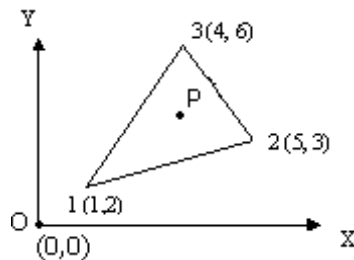

Figure 4b
- (b) The nodal coordinates of the triangular element are shown in figure4b . At the interior Point P